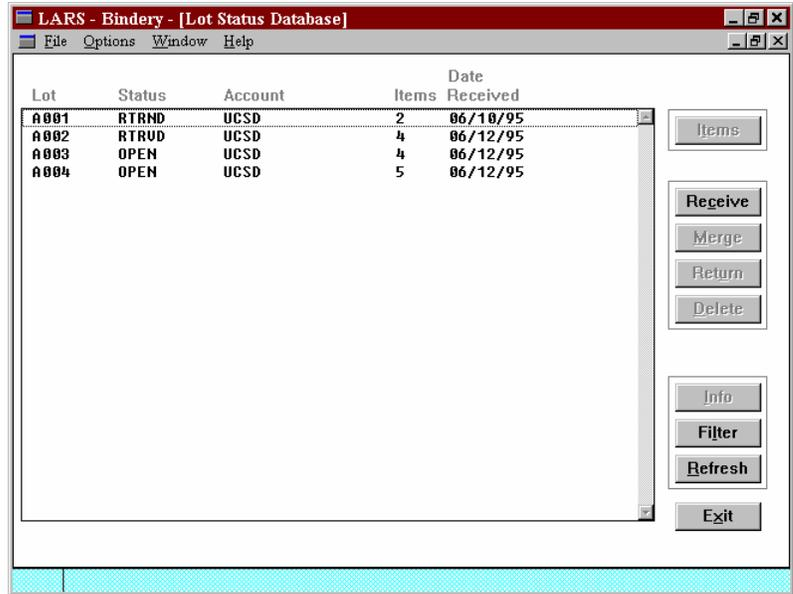

Figure 33 - Lot Status Database at the Bindery
A. At the Main Menu for LARS/Windows:Bindery, press the **Shipments** button. That will bring you to the Lot Status Database (see Figure 33).
- 3) After you receive the diskette, the new lots will appear in the list below (Figure 33).